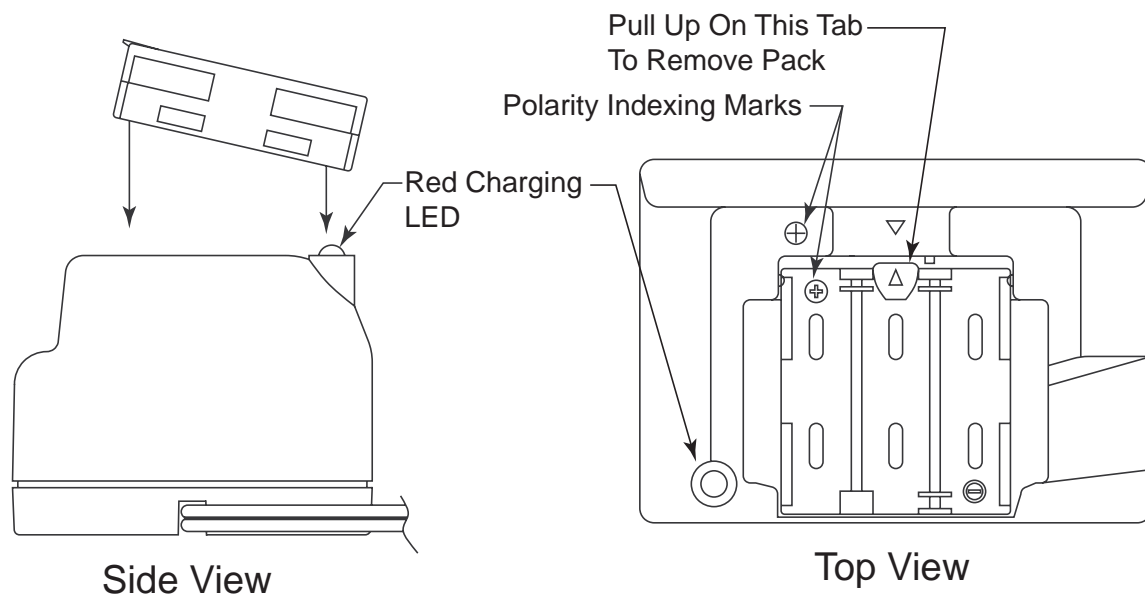

Figure 8: Putting the Battery Pack into the Charging Station
2. Insert the battery pack into the charging station as shown in Figure 8 below so that the metal contacts on the ends of the battery pack come into contact with the metal contacts in the charging station. When proper contact has been made, the red LED on the charging station will turn on.